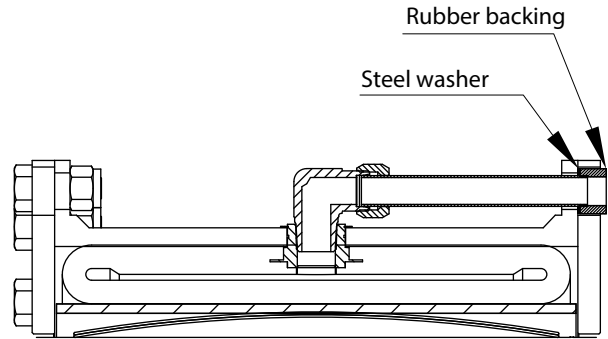

Figure 6
- 2.6.9 Install the air connection gaskets onto the air tubes. The metal backup washer is to be positioned toward the elbow (away from the spider). See Figure 6.